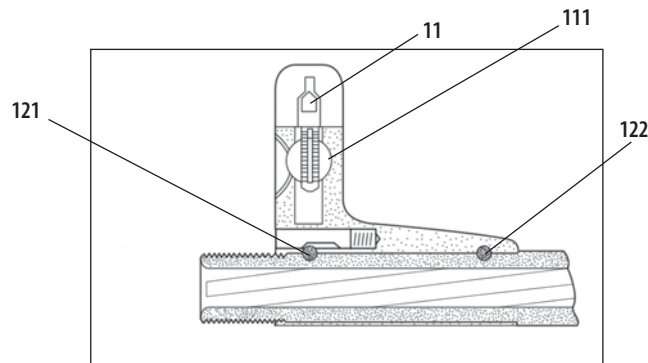

Fig. 4 **Front sight base /sectional view/**
The external cylindrical surface of the barrel is stepped four times. Near the muzzle, on the barrel, is pressed front sight base 12, which is locked by two pins 121 and 122 in order to prevent turning (Fig. 4). In front of the front sight base is muzzle nut 19 screwed on to the threaded muzzle.
**Front sight 11** (Fig. 4) together with rear sight 21 form the sights of the rifle and are used for aiming of the rifle. The front sight is of a cylindrical shape, provided with a thread in its bottom part, longitudinally cut and opened. It is screwed into the front sight pin 111 and the front sight thread part enables it to be adjusted for height. After screwing the front sight into the front-sight pin, the opened part springs, thus preventing the front sight from turning spontaneously.